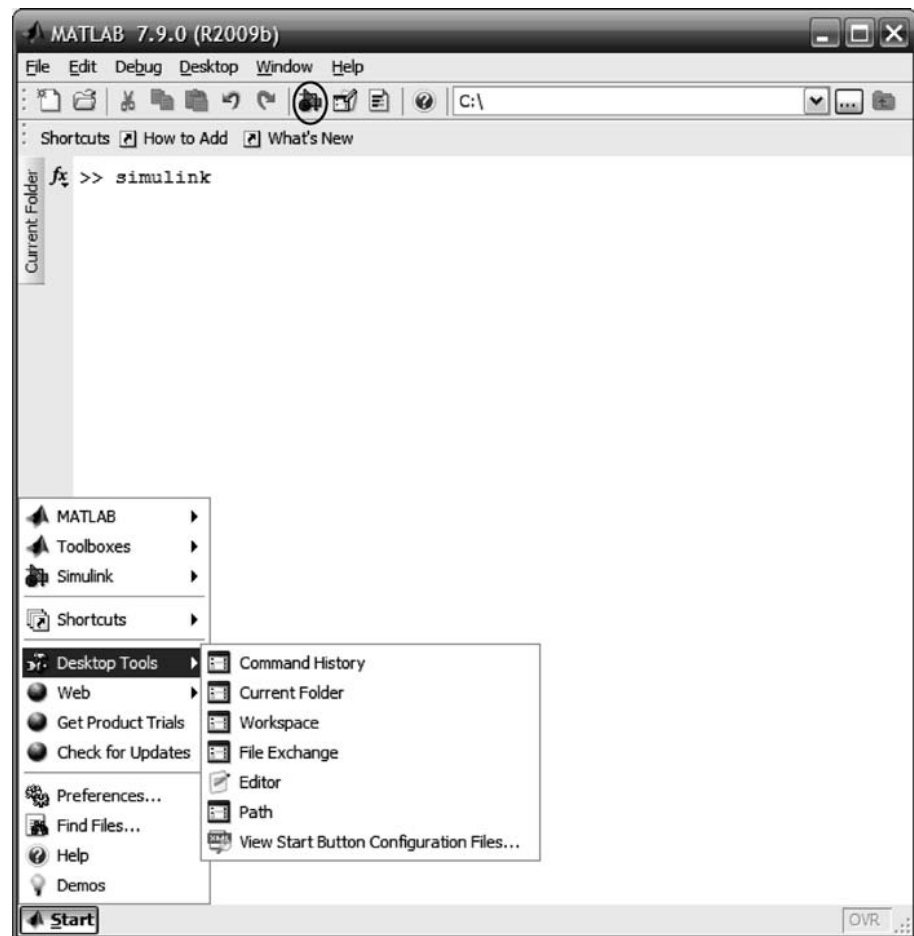

FIGURE C.1 MATLAB Window showing how to access Simulink. The **Simulink Library Browser** button is shown circled.
- 1. Access Simulink** The **Simulink Library Browser**, from where we begin Simulink, is accessed by typing *simulink* in the **MATLAB Command Window** or by clicking on the **Simulink Library Browser** button on the toolbar, shown circled in Figure C.1.
In response, MATLAB displays the **Simulink Library Browser** shown in Figure C.2(a). We now create an **untitled** window, Figure C.2(b), by clicking on the **Create a new model** button (shown circled in Figure C.2(a)) on the tool bar of the **Simulink Library Browser**. You will build your system in this window. Existing models may be opened by clicking on the **Open a model** button on the **Simulink Library Browser** toolbar. This button is immediately to the right of the **Create a new model** button. Existing models may also be opened by selecting the **Current Folder** from the **command Window Start** menu or the tab on the left side of the **Command Window** as shown in **Current** Figure C.1, selecting your file names, and then dragging them to the **MATLAB Command Window**.